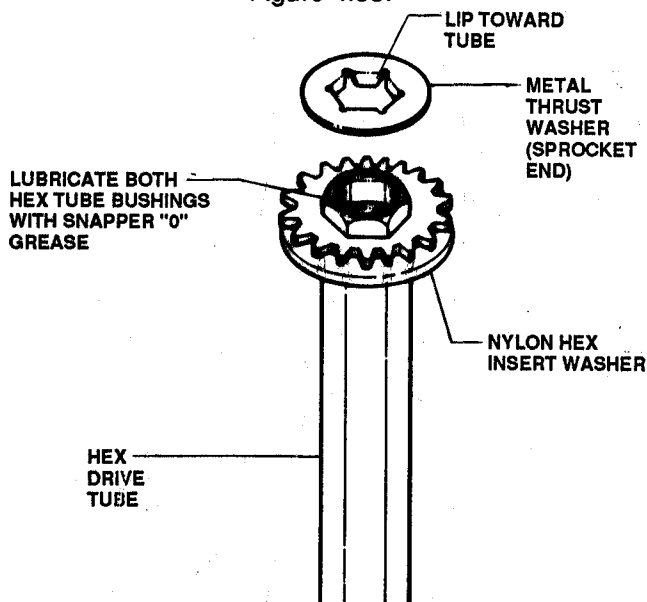

FIGURE 4.33
17. Reinstall metal thrust washer on sprocket end of hex shaft. See Figure 4.33.